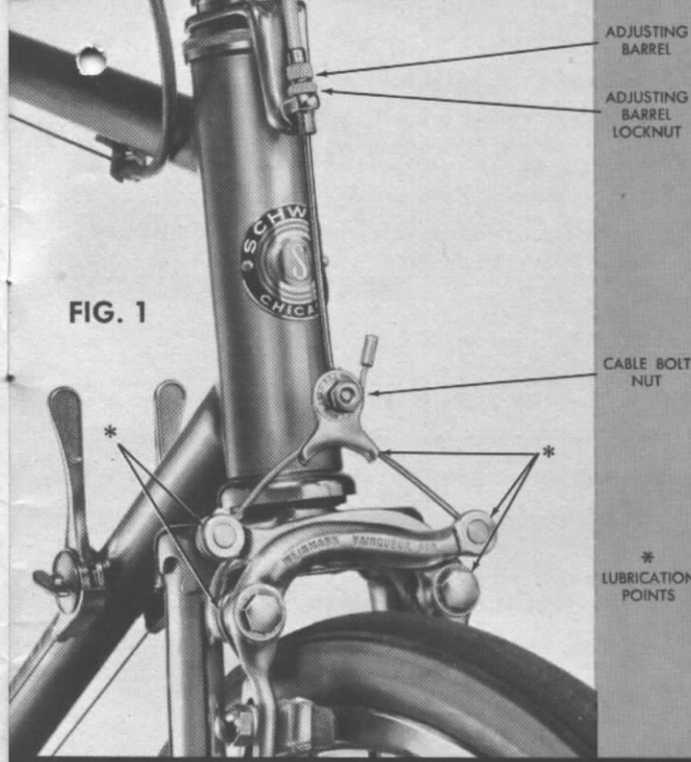

FIG. 1
To readjust, shift the unit into high gear by pushing the right shifting lever all the way forward while turning the pedals. The slack in the cable can now be taken up by turning the adjusting barrel until the cable is **ALMOST** tight. (Fig. 1) Retighten the lock nut. If all the adjustment in the barrel has been used up, unscrew the lock nut to the head of the barrel and screw the barrel down almost all the way. Now loosen the cable pivot nut and pull cable through until it is **ALMOST** tight. Retighten the cable bolt nut. (Fig. 1) Fine adjustment can now be made with the adjusting barrel as previously described.
- C. Shift rear derailleur to high gear (small sprocket). The cable should be almost under tension. If not, readjust as shown in section 3. In this position the guide cage should be centered over the chain and the sprocket. If adjustment is necessary, turn high gear adjusting screw as needed. (See Fig. 1.)
- D. Shift rear derailleur to low gear (large sprocket). If chain has a tendency to overrun onto the spokes or does not quite climb onto the sprocket, turn low gear adjusting screw as needed. (See Fig. 1.)
1. to align rear sprockets and idlers (fig. 1)
Cables normally stretch after use and may require adjustment. When either shifting lever is all the way forward (chain on small front sprocket and small rear sprocket), the cable should be almost taut. If it isn't, loosen the cable anchor screw and pull the cable tighter. Then retighten the anchor screw. (See Fig. 1 and 2)
C. Shift rear derailleur to high gear (small sprocket). The cable should be almost under tension. If not, readjust as shown in section 3. In this position the guide cage should be centered over the chain and the sprocket. If adjustment is necessary turn high gear adjusting screw as needed. (See Fig. 1.)
D. Shift rear derailleur to low gear (large sprocket) If chain has a tendency to overrun onto the spokes or does not quite climb onto the sprocket, turn low gear adjusting screw as needed. (See Fig. 1.)
1. Check the pivot nut periodically (located behind the front fork opposite the acorn nut)—make sure it is tight. (See Fig. 1.)
2. Check alignment of brake blocks. The brake shoes should be parallel to the side of the rim. Also, be sure brake block holder nut is tight. (See Fig. 1.)
3. Lubricate the pivot bolt with a light machine oil between the brake arms every two weeks. (See Fig. 1.)
Adjustment of the caliper brakes can be made by loosening the barrel lock nut and unscrewing the barrel several turns (see Fig. 1). The lock nut should then be securely tightened. If there is not enough take-up left on the brake barrel, further adjustment can be obtained by screwing the barrel in all the way, loosening the cable bolt and pulling the cable through the cable stud until the brake shoes are approximately $\frac{1}{8}$ " from the rim on each side. Lock the cable bolt securely after moving the cable.
3. Lubricate the pivot parts and inner cables of the brakes with a light oil every few weeks. Wipe off excess oil. Points of lubrication are shown in Fig. 1.